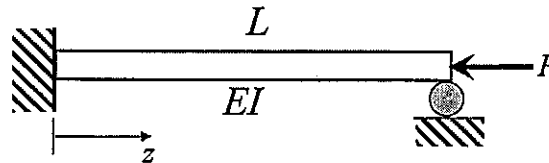

Figure 3
- (b) As an aircraft engineer, you are asked to determine the buckling load of a column shown in Figure 3. This column has a length L and is of uniform EI with one end clamped and the other simply supported.